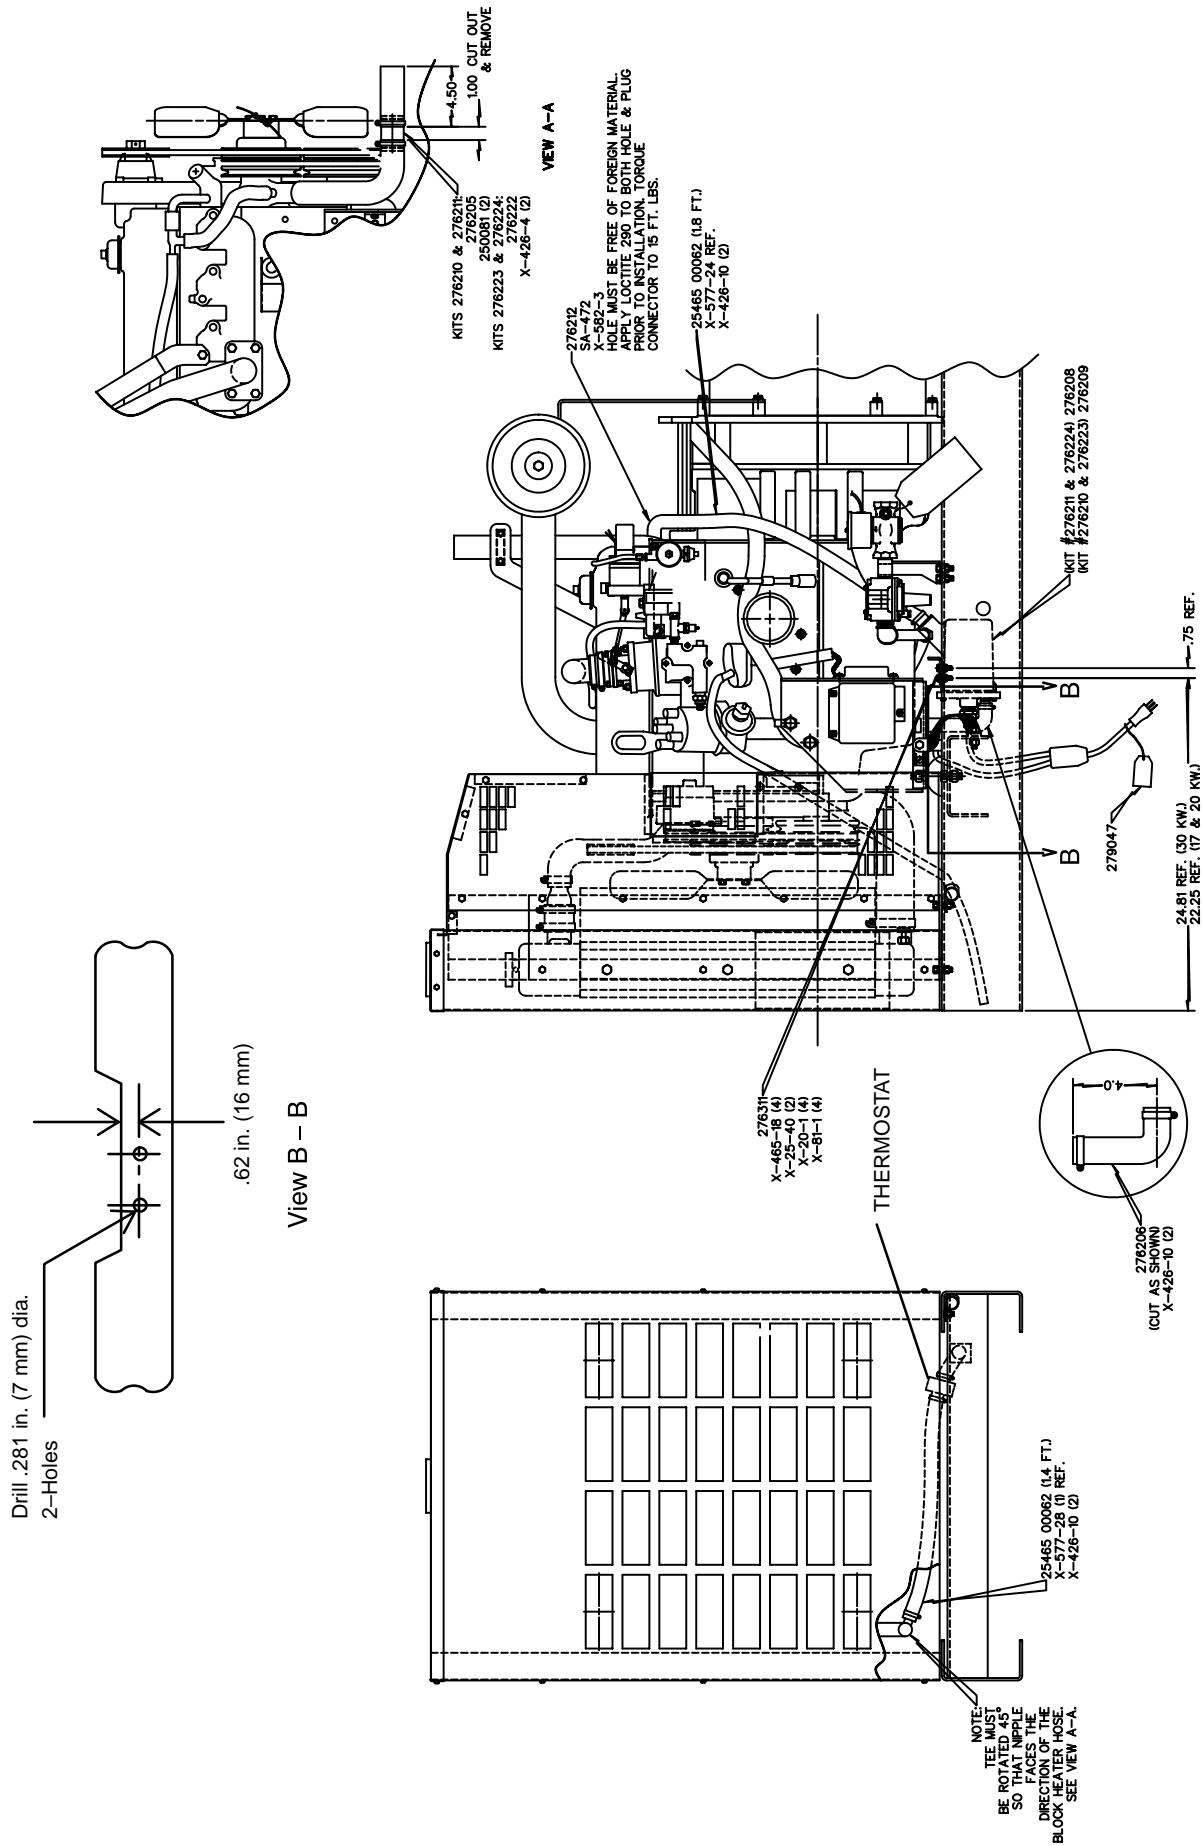

Figure 1. Block Heater Installation
3. Remove freeze plug from engine. See Figure 1 for location. To remove freeze plug, use a freeze plug puller, or puncture center with punch and pry out. Clean hole and remove burrs.
12. Cut molded hose 276206, see Figure 1. Place two hose clamps X-426-10 on molded hose. Connect short end of molded hose to block heater inlet and the other end to thermostat. Locate hose clamps 1/4 in. (6 mm) from end of hose and tighten.
Early generator sets may not have pre-drilled holes in skid. Use bracket as a template and drill two 19/64 in. (7 mm) dia. holes in skid. See Figure 1 and View B-B for location.